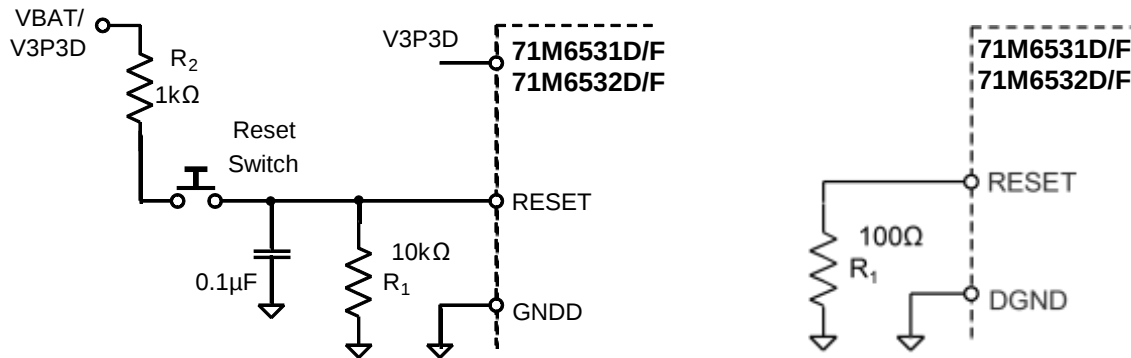

Figure 38: External Components for the RESET Pin: Push-button (Left), Production Circuit (Right)
Even though a functional meter will not necessarily need a reset switch, it is useful to have a reset push-button for prototyping as shown in Figure 38, left side. The RESET signal may be sourced from V3P3SYS (functional in MISSION mode only), V3P3D (MISSION and BROWNOUT modes), or VBAT (all modes, if a battery is present), or from a combination of these sources, depending on the application.
For a production meter, the RESET pin should be protected by the external components shown in Figure 38, right side. R1 should be in the range of 100 Ω and mounted as closely as possible to the IC.
- ☒ Since the 71M6531 generates its own power-on reset, a reset button or circuitry, as shown in Figure 38, is only required for test units and prototypes.